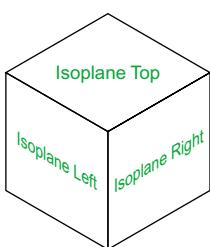

Fig. 7.18 The three isoplanes
2. There are three isometric angles – **Isoplane Top**, **Isoplane Left** and **Isoplane Right**. These can be set by pressing either the **F5** function key or the **Ctrl** and **E** keys. Repeated pressing of either of these ‘toggles’ between the three settings. Fig. 7.18 is an isometric view showing the three isometric planes.
3. With **Line**, construct the outline of the top of the model (**Fig. 7.19**) working to the dimensions given in **Fig. 7.18**.